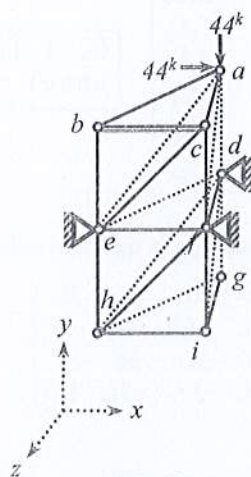

Fig. 2
- Ignore zero-force members of the space truss $abcdefghij$ shown in Fig. 2 and apply boundary conditions to formulate stiffness matrix and load vector